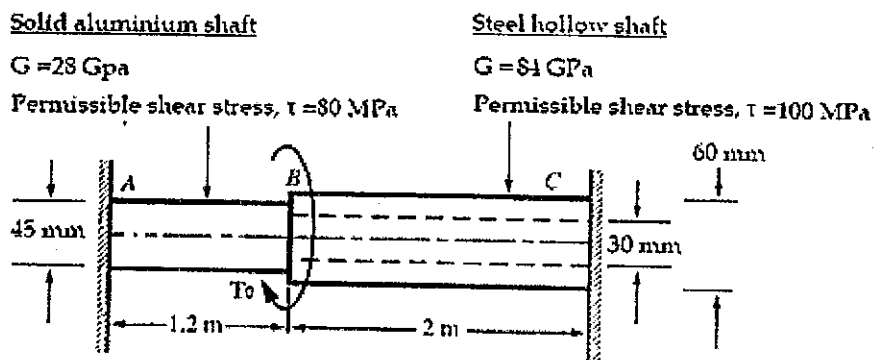

Fig. Q5
- Q5. A stepped shaft AC has two regions, AB and BC as shown in Fig. Q5. The AB region is aluminum solid circular bar with the diameter 45 mm, and BC region is circular hollow section with the 60 mm outer diameter and 30 mm inner diameter. The shear modulus (G) and the permissible torsional shear stresses (τ) for aluminum and steel are as indicated in Fig. Q5